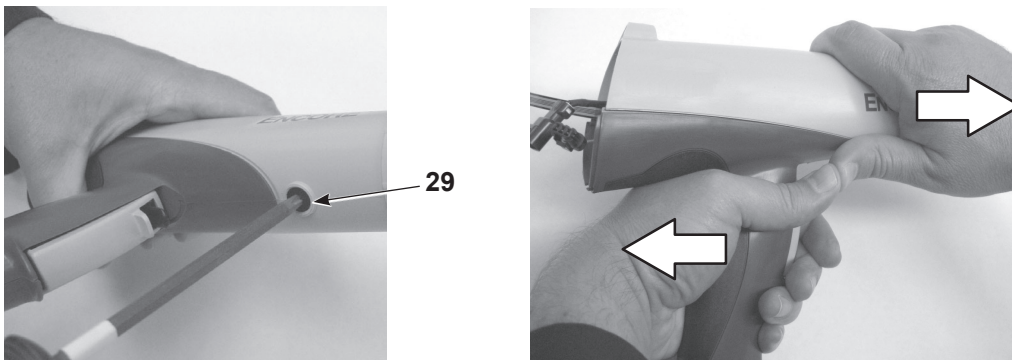

Figure 12 Removing the Gun Body from the Handle
4. See Figure 12. Remove the black nylon screw (29) from the gun body.